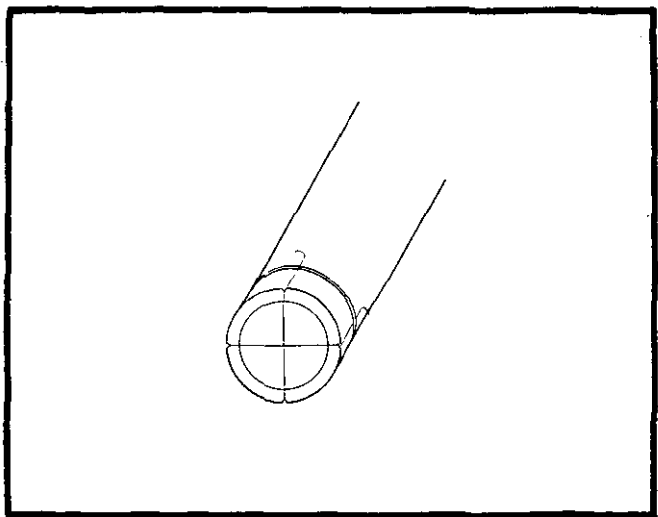

FIGURE 10.—If a front boresight is not provided, stretch thread across the muzzle.
b. If a rear boresight is not available, remove the firing pin and guide assembly and sight through the firing pin well. If a front boresight is not provided, stretch thin black thread across the muzzle (fig. 10).